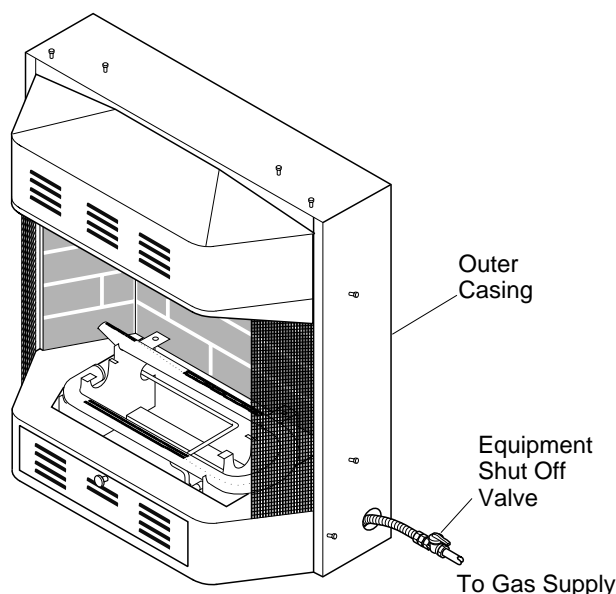

Figure 22 - Routing Flexible Gas Line
1. Route flexible gas line (provided by installer) from equipment shutoff valve into fireplace through side or rear access holes in outer casing (see Figure 22).